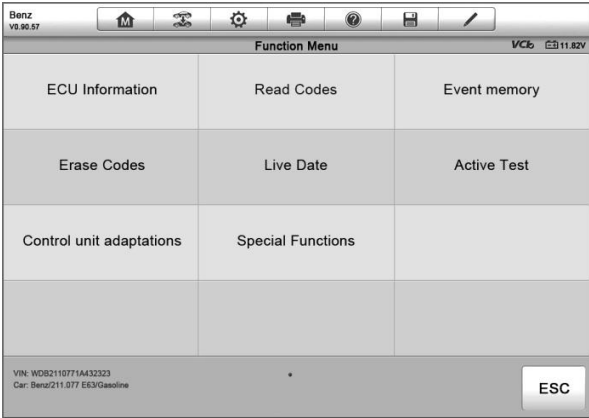

Figure 4-8 Sample Function Menu Screen
- Tab the  button to the right of the system item, on which you want to perform further diagnosis and other test activities. A Function Menu screen (*Figure 4-8*) shall then display.